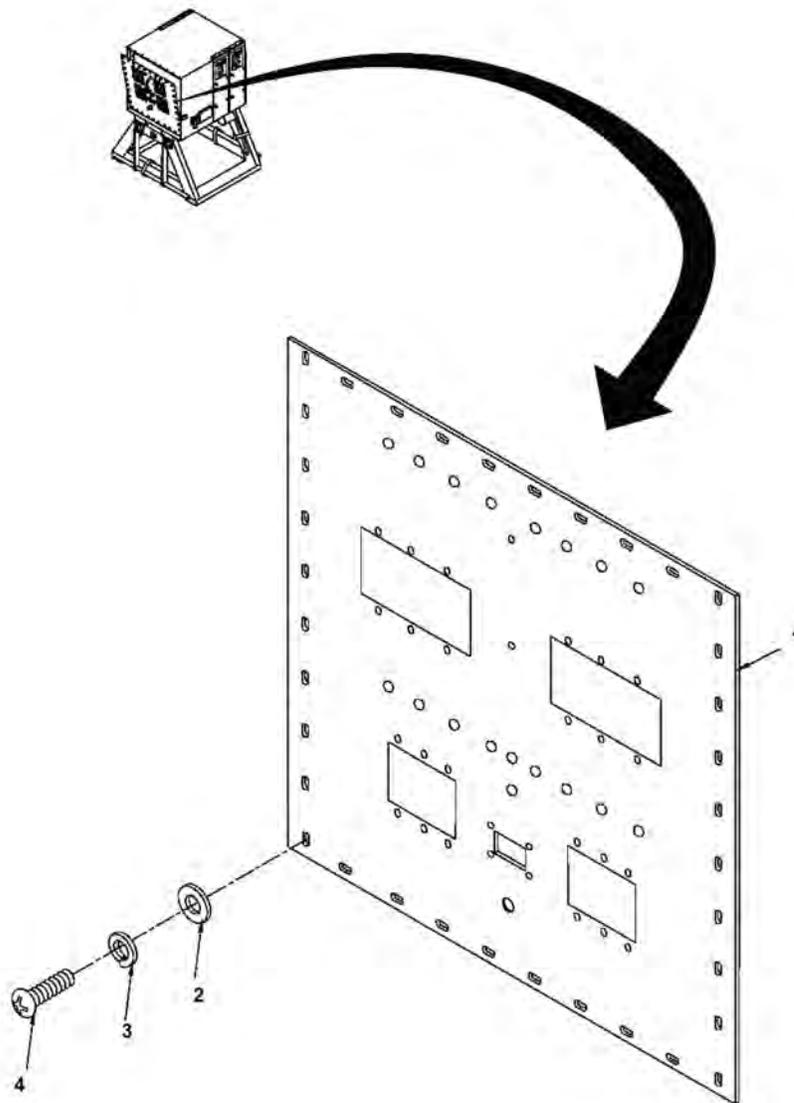

Figure 1. Circuit Breaker Panel.
13. Position circuit breaker panel (Figure 1, Item 1) on hinge on PDB and secure using 10 ea. flat washers (Figure 1, Item 2), lock washers (Figure 1, Item 3) machine screws (Figure 1, Item 4).